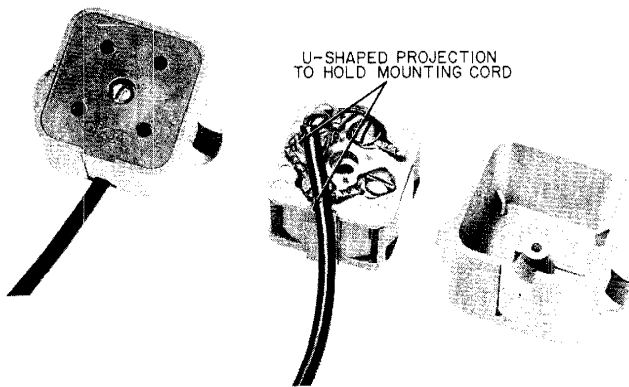

Fig. 6—423A Plug, Front View and Rear View Cover Removed
2.07 The 423A plug (Fig. 6) is a 2-piece, 4-contact molded plastic plug for use with the 750-type panel telephone set. U-shaped projections are molded in the base for securing the mounting cord.
- (1) Make connections as indicated by color designations stamped adjacent to terminals.
- (2) Connect cord tips as shown in Fig. 6.
- (3) Lay jacketed portion of cord in the two molded U-shaped projections.
- (4) Place cover on base and tighten screw.